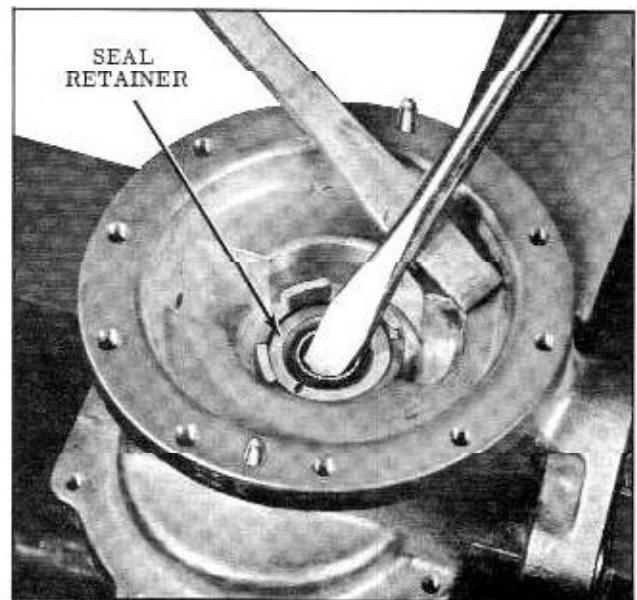

Fig. 8-68 Removing Fuel Pull Rod Seal and Retainer
- Remove pull rod seal by pulling out seal retainer and seal. (Fig. 8-68)